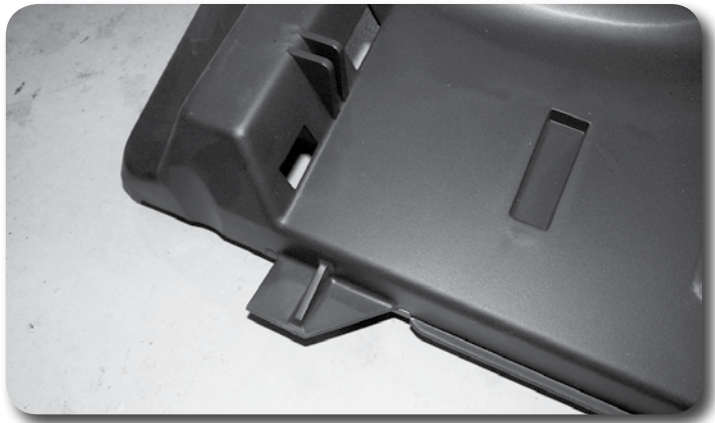

Figure 15
37. Locate and cut off the passenger's side lower fan shroud mounting tab flush with the side of the shroud **Figure 15**.